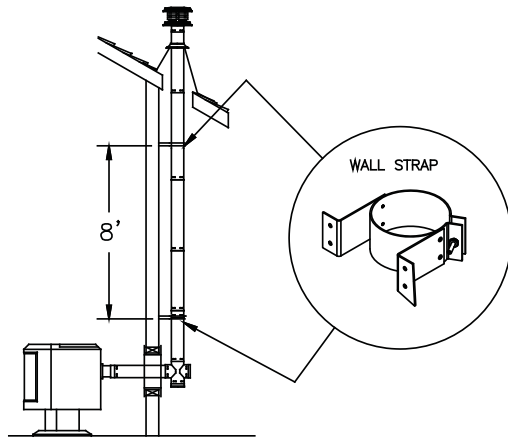
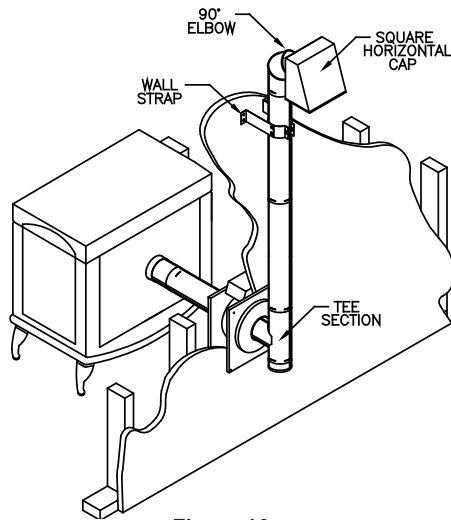

Figure 15
Figure 16
**D.** Attach Wall Strap just above the tee. Wall Straps must be placed every 8-feet along an exterior vertical run (**Figure 15**). If your exterior vertical run terminates horizontally before penetrating the roofline, install at least one Wall Strap on the Pipe Section before 90 Degree Elbow and Horizontal Cap (**Figure 16**). Under no circumstances can a Vertical Cap be installed adjacent to vertical wall. PelletVent Pro offers fixed and Adjustable Wall Straps to maintain a 1"-3" clearance, as desired. If Assemble Pipe Sections in the same manner described in Step 2 of the general instructions.